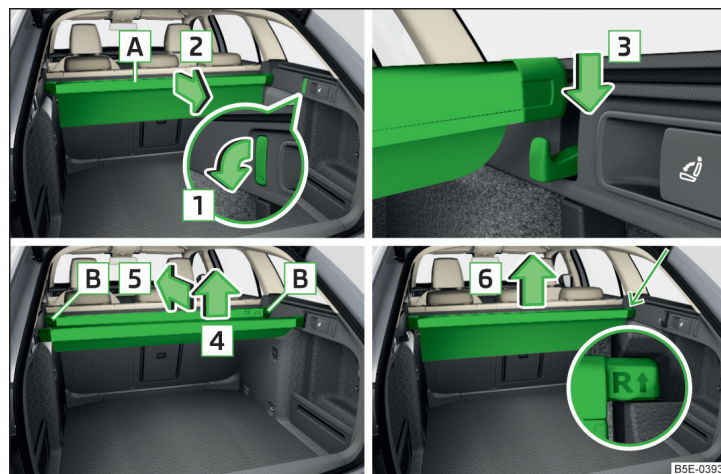

Fig. 122 Multi-function pocket: Pull out / insert / push in / remove multi-function pocket
- Fold down the front hooks on both sides of the luggage compartment in the direction of arrow **1** » Fig. 122.
- Remove the rear bar from the hooks in the direction of arrow **4** and push in the pocket in the direction of arrow **5** » Fig. 122.
- Remove the pocket from the fittings in the direction of the arrow **6** » Fig. 122.